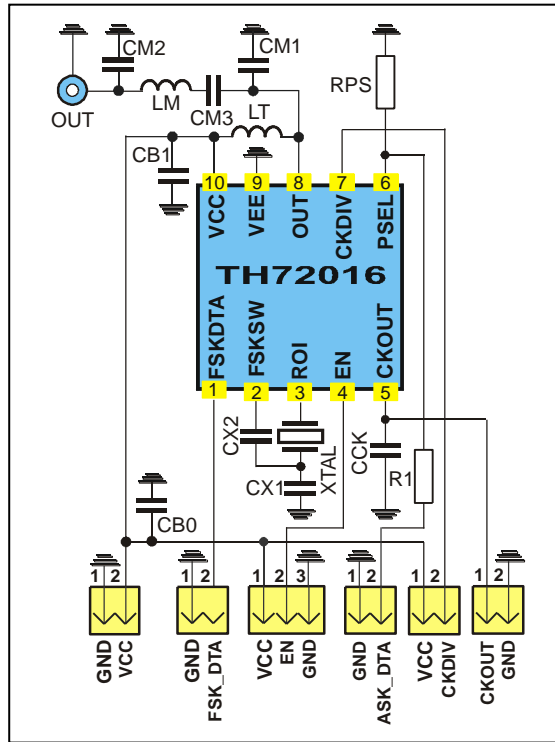

Fig. 6: Test circuit for FSK and ASK with 50 Ω matching network
typical values at TA = 23 °C and VCC = 3 V; test circuit shown in Fig. 6, fc = 433.92 MHz
typical values at TA = 23 °C and VCC = 3 V; test circuit shown in Fig. 6
5.1. Test circuit component list to Fig. 6